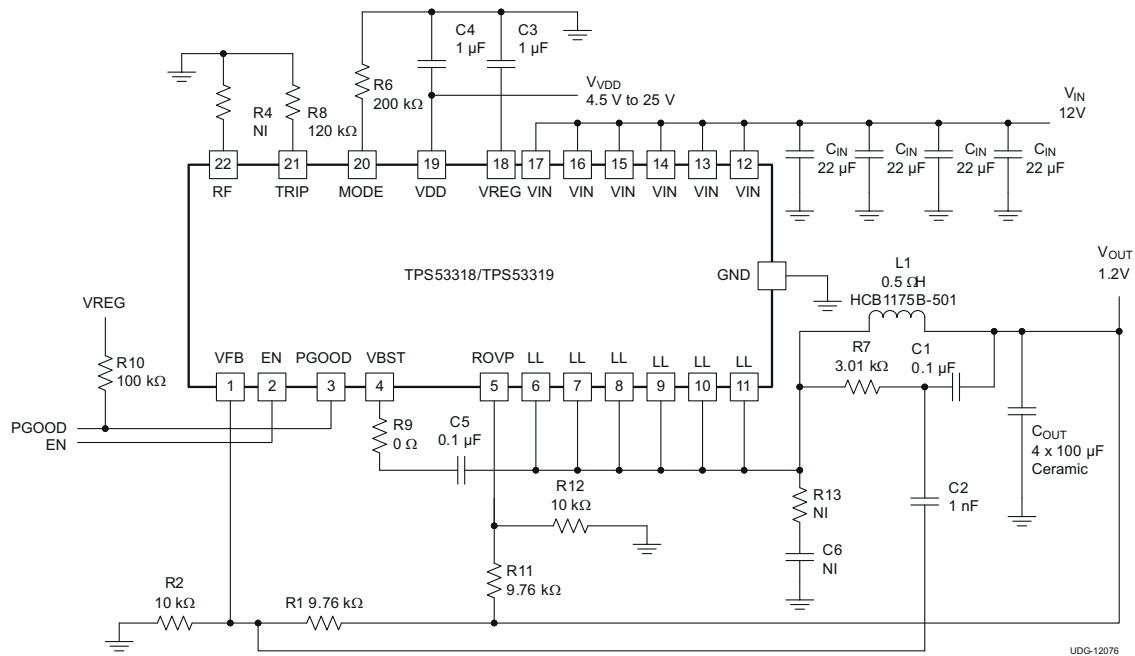

图 9-12. Typical Application Circuit, Redundent OVP Enabled
The redundant overvoltage level is programmed according to the output voltage setting, it is controlled by resistors R11 and R12 as shown in 图 9-12. Connect resistor R11 between the ROVP pin and the output, and connect resistor R12 between the ROVP pin and GND. This design recommends that the value of resistor R11 match the value of resistor R1 (or slightly higher), and that the value of resistor R2 match the value of resistor R12.
- Connect the ripple injection  $V_{OUT}$  signal ( $V_{OUT}$  side of the C1 capacitor in 图 9-12) from the terminal of ceramic output capacitor. The AC coupling capacitor (C2 in 图 9-12) should be placed near the device, and R7 and C1 can be placed near the power stage.